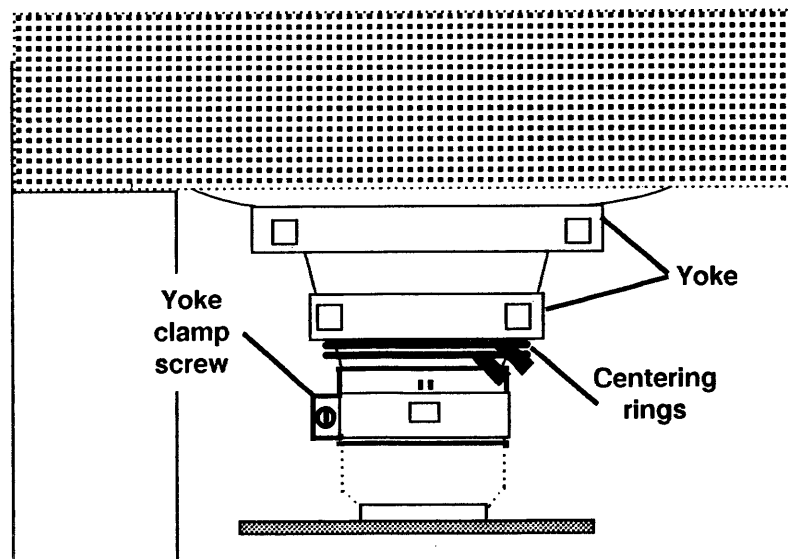

Figure 25. 19 Inch Display Yoke and Centering Rings
- e. Adjust the centering rings on the back of the yoke (Figure 25) until the vertical and horizontal center lines are within the distances specified in step c. If the specifications cannot be met, you will have to tilt the raster. Go to step 12.
- Loosen the yoke clamp screw one-quarter turn (Figure 25).